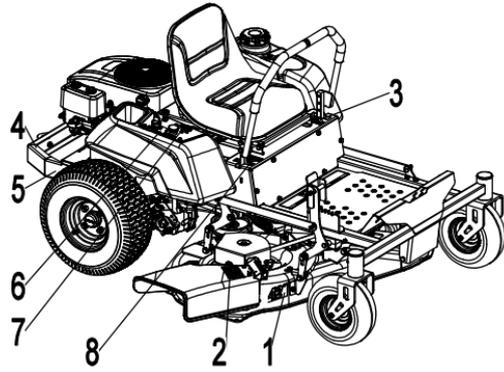

Figure 1
- All DANGER, WARNING, CAUTION and instructional messages on your machine should be carefully read and obeyed. Personal injury can result when these instructions are not followed. The information is for your safety and it is important! The safety decals below are on your machine. The position of decals refer to Figure 1 and Figure 2.